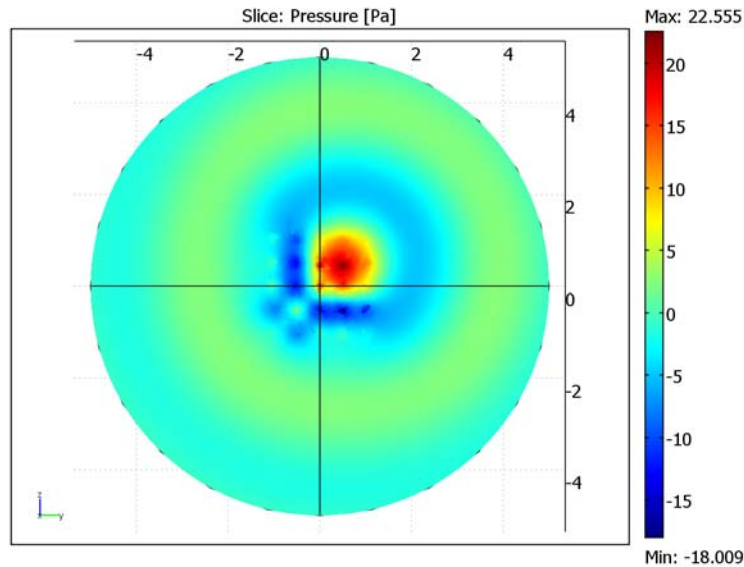

Figure 2-3: Slice plot of the sound pressure distribution at 500 Hz. The slice is parallel with the *yz*-plane and situated at $x = 0.2$ m.
Figure 2-3 shows the sound pressure distribution in a slice of the sphere close to the loudspeakers. In this immediate vicinity of the sources, the sound field is still very inhomogeneous.
- 4 Click the **Go to YZ View** button. The plot should now resemble the one in Figure 2-3.